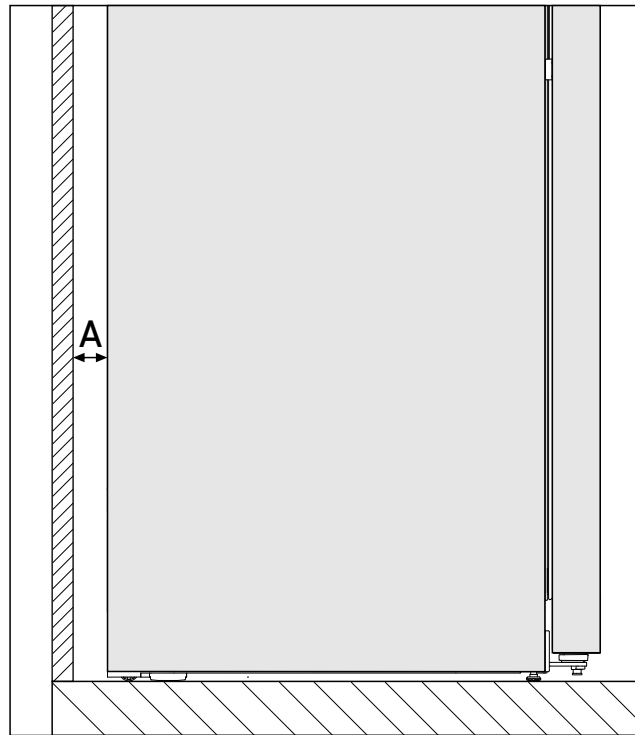

Fig. 3 \*
The energy consumption has been determined with a gap of Fig. 3 (A) between the rear of the appliance and the wall. If the wall gap is less than Fig. 3 (A), this does not affect the appliance's operability but the energy consumption does increase slightly at a smaller wall gap.\*